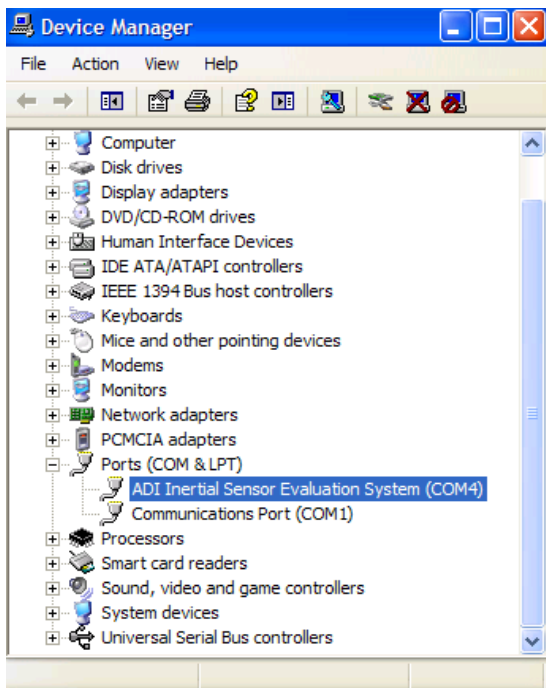

Figure 6. Device Manager Showing the COM Port Number
- Select **Device Manager**, expand the **Ports (COM & LPT)** menu item as shown in Figure 6. **ADI Inertial Sensor Evaluation System** should be listed with an assigned COM port number in parenthesis.